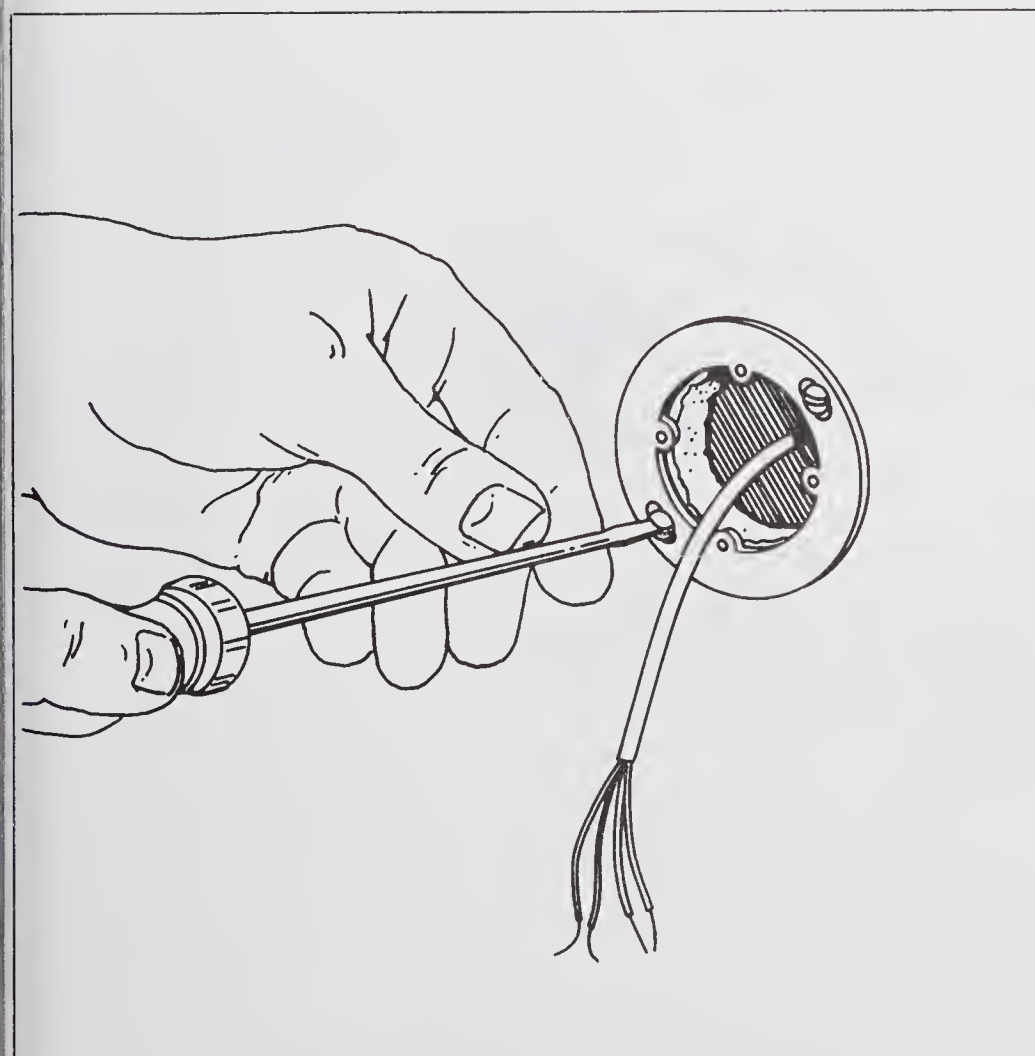

Figure 7-5.
8. Attach the mounting ring around each outlet hole at X, Y and Z with plastic anchors and screws as shown in *Figure 7-5*. (See also *Figure 5-6*.)